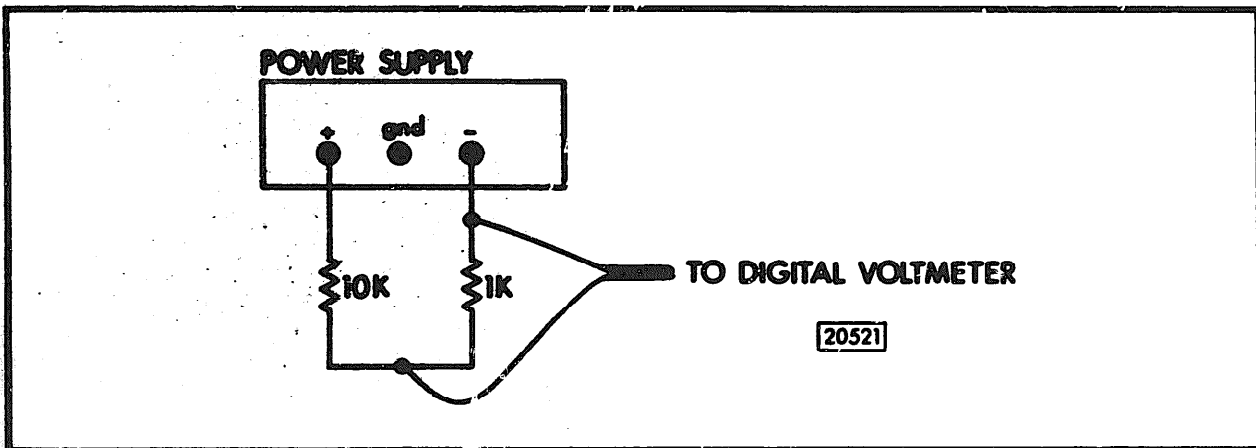

Figure 4-18 Ext Input Check
16. Connect the Digital Voltmeter to the Power Supply as shown in Figure 4-18.
18. Set the Y1 POSITION (27) to bring the Y1 trace to the bottom graticule line.
19. Disconnect the DVM and connect the 80mV to the EXT INPUT (B).
20. Adjust the Y1 GAIN (8) to give 8cm vertical offset on the Y1 trace.
21. Set the CALIBRATION (31) to 10% and clock for a split trace display of 0.8cm ±0.1 cm.
22. Set the CALIBRATION (31) to 50mV and check for a split trace of 5cm ±0.25cm.